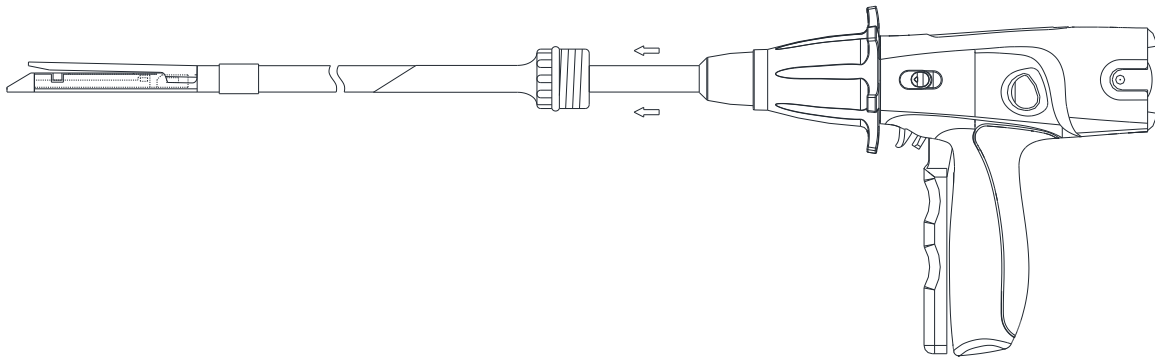

Figure 3-6
- 2) The device is inserted into the body cavity through an appropriately sized Trocar or through body surface incision (Figure 3-6). When using the Trocar, the device jaws must be closed and pass through the Trocar sleeve before opening the device jaw.